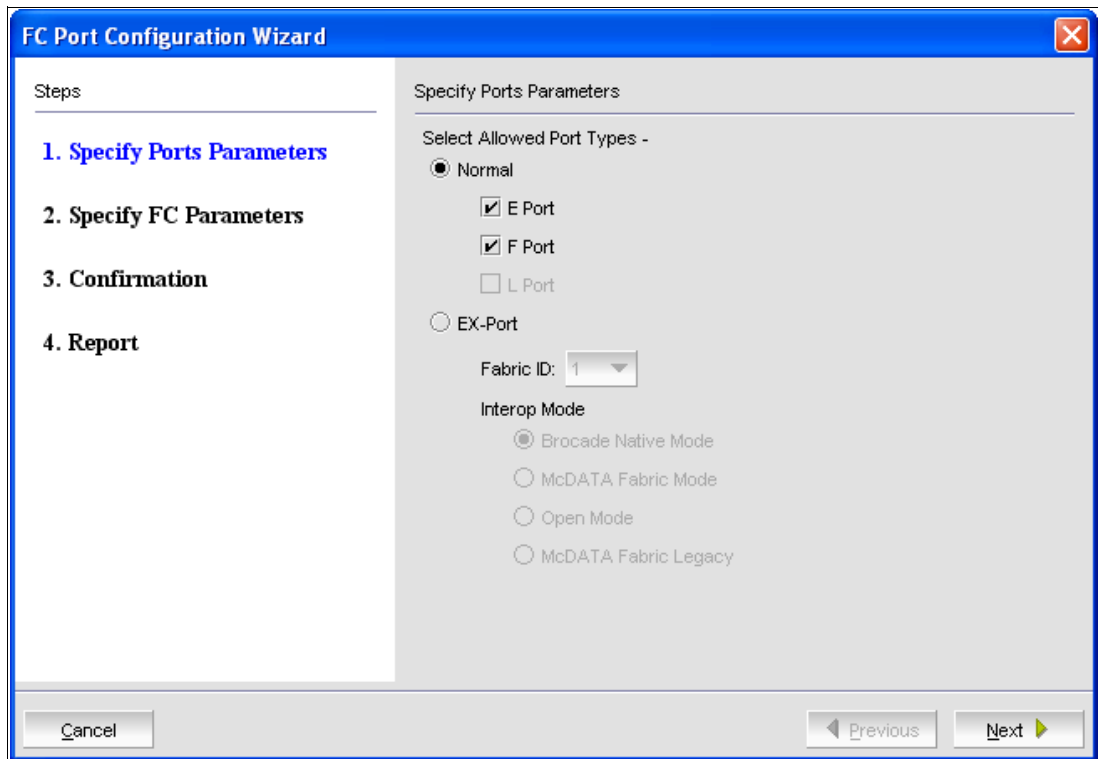

Figure 8-44 Port type configuration
5. Click **Edit Configuration** for the selected port, as shown in Figure 8-44.
5. Click **Edit Configuration** for the selected port, as shown in Figure 8-44 on page 283.